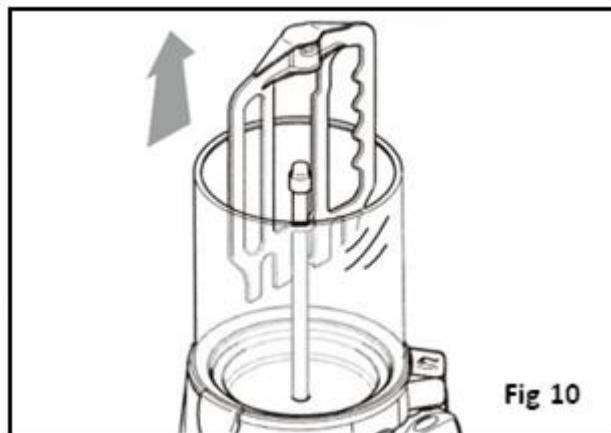

Fig 10
- Slide the mixing paddle upwards to remove it, keeping it in line with the central rod until the bottom slot of the mixing paddle is level with the rotation pin (Fig 10).